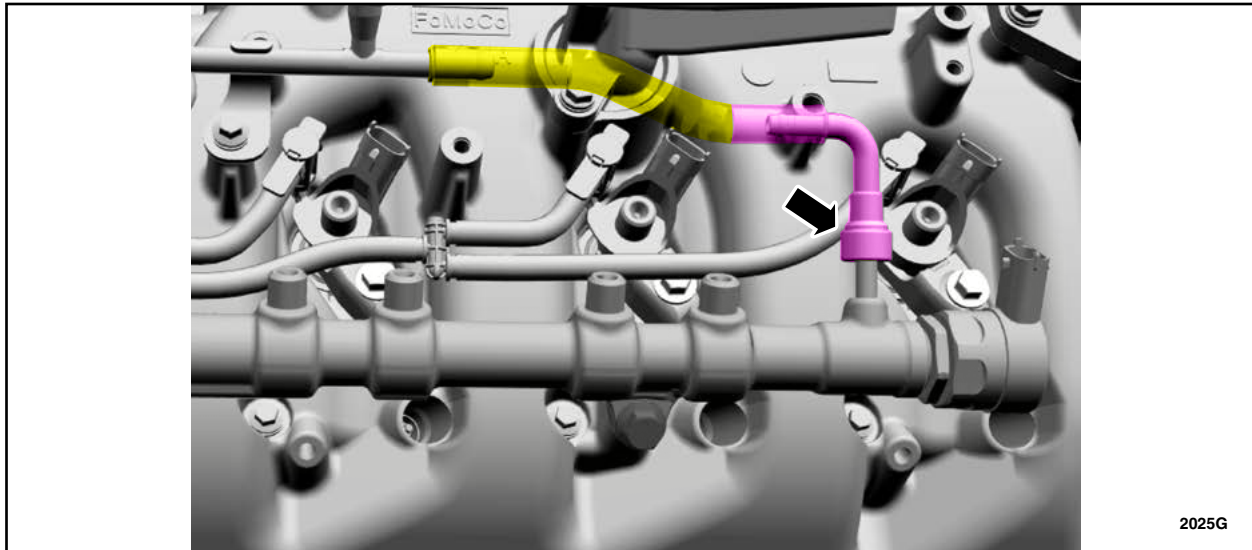

FIGURE 6
9. Disconnect the fuel rail supply tube from the fuel rail. Please follow the WSM procedures in Section 310-00B. See Figure 6.
17. Connect the fuel rail supply tube to the fuel rail. See Figure 6.